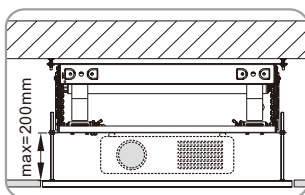

Figure 22
14. Adjust the height of decorative ceiling plate depended on the actual ceiling height, and twist setscrew nut on the 200mm long screws assembled in the four corners of decorative ceiling plate. The max height is about 200mm (Figure 22). Please tighten screws to avoid looseness.